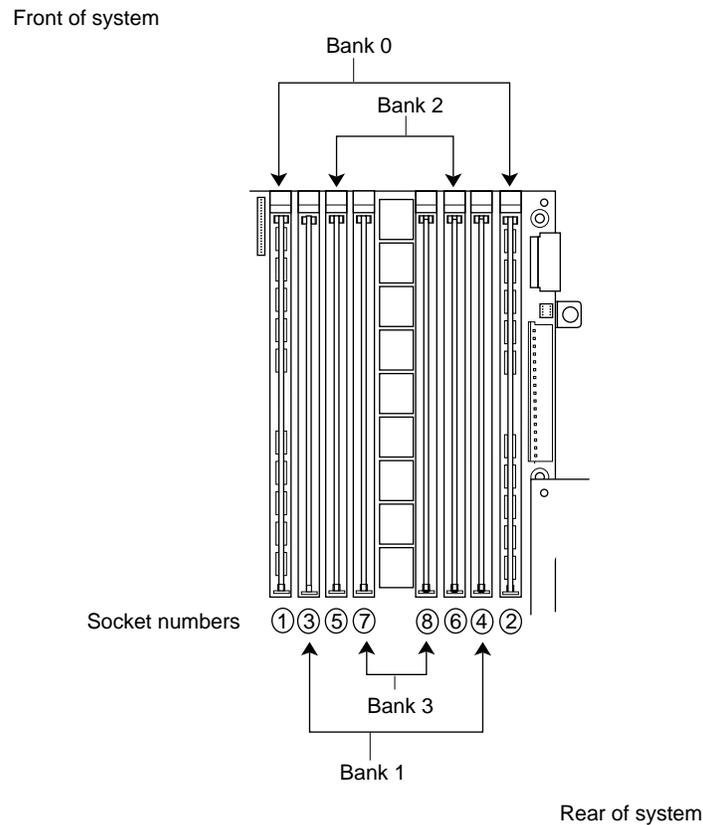

Figure 3-5 DIMM Pair Grouping in the Origin200 Server
3. Remove DIMMs in pairs, starting with the pair closest to the center of the banks (bank 3). See Figure 3-5.